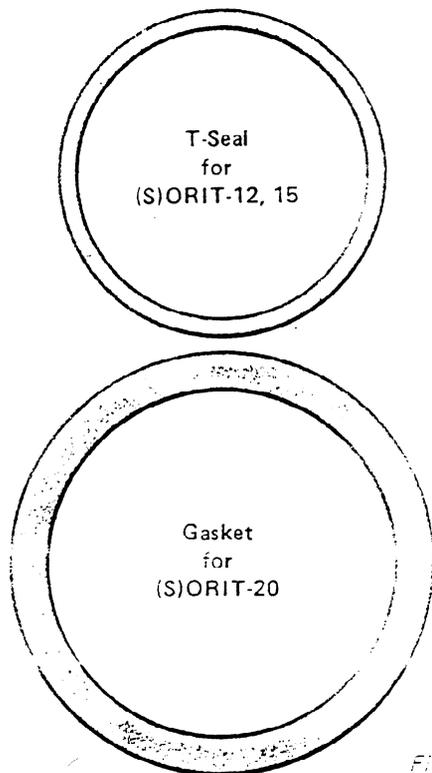

Figure 1
6. Remove the locknut or cap screws and pilot assembly from the main valve body and replace the tetraseal in the mating groove of the adaptor. Two gaskets are supplied with each pilot assembly kit. The correct gasket for the (S)ORIT-12 and -15 is the tetraseal. See Figure 1 for actual dimensions of the tetraseal.
7. Again mount the complete pilot assembly to the main valve body. Properly align the three pilot connections and tighten the locknut to 30 ft/lbs. Excessive tightening is not required on the (S)ORIT-15, but uniformity of compression from the four cap screws is important. Complete the installation by joining the three pilot connections.
4. Remove the four cap screws with a 1/4" Allen wrench and replace the flange adapter gasket. See Figure 1 for actual dimensions of the gasket.
5. Reassemble the flange and cap screws. Before completely tightening the cap screws, rotate the pilot valve to properly align the inlet, outlet, and external equalizer connections. Join these connections and tighten the cap screws. The (S)ORIT-20 gasket is a composition gasket and, therefore, a torque value is not recommended but the flange must be bolted down evenly and firmly. The pilot replacement is now complete.